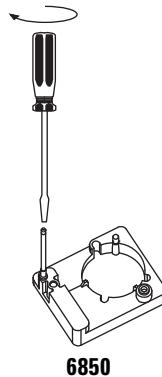

Figure 13 Installing the mounting post (6850 GCs)
- **6850 Series GC.** Install into the inlet mounting bracket. Loosen the inlet screws, install the post and tighten the screws. The post must be turned all the way down (Figure 13).